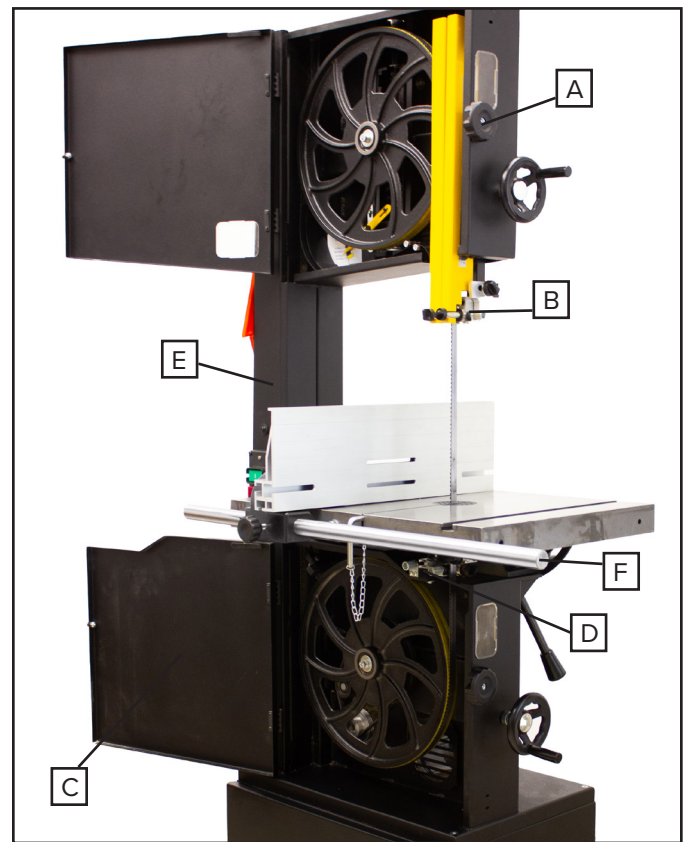

Figure 23: Replacing the Saw Blade.
- Loosen the Locking Handle (A) and open the Hinged Door on the blade guard Fig. 23.